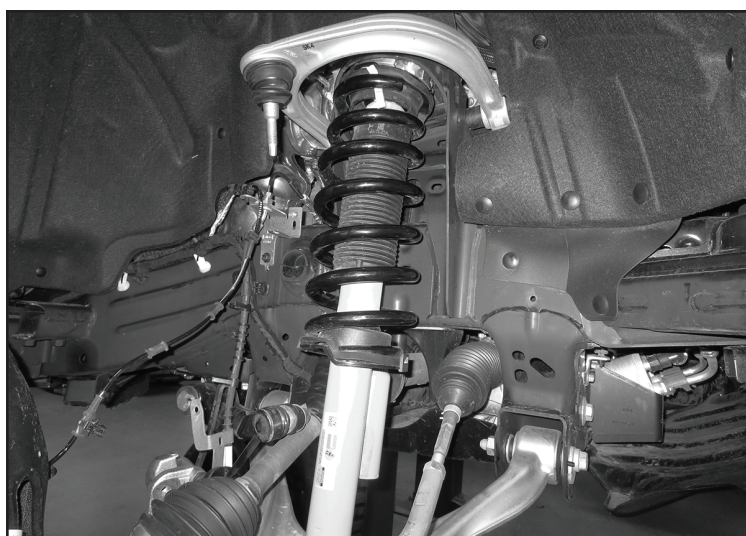

FIGURE 14 - STEP 14
14. Reinstall the strut assembly using the supplied 3/8" X 1" bolts, lock washers and flat washer at the upper mount and factory hardware at the lower mount. Torque the 3/8" hardware to 45 ft-lbs and the factory lower hardware to 93 ft-lbs. **SEE FIGURE 14**